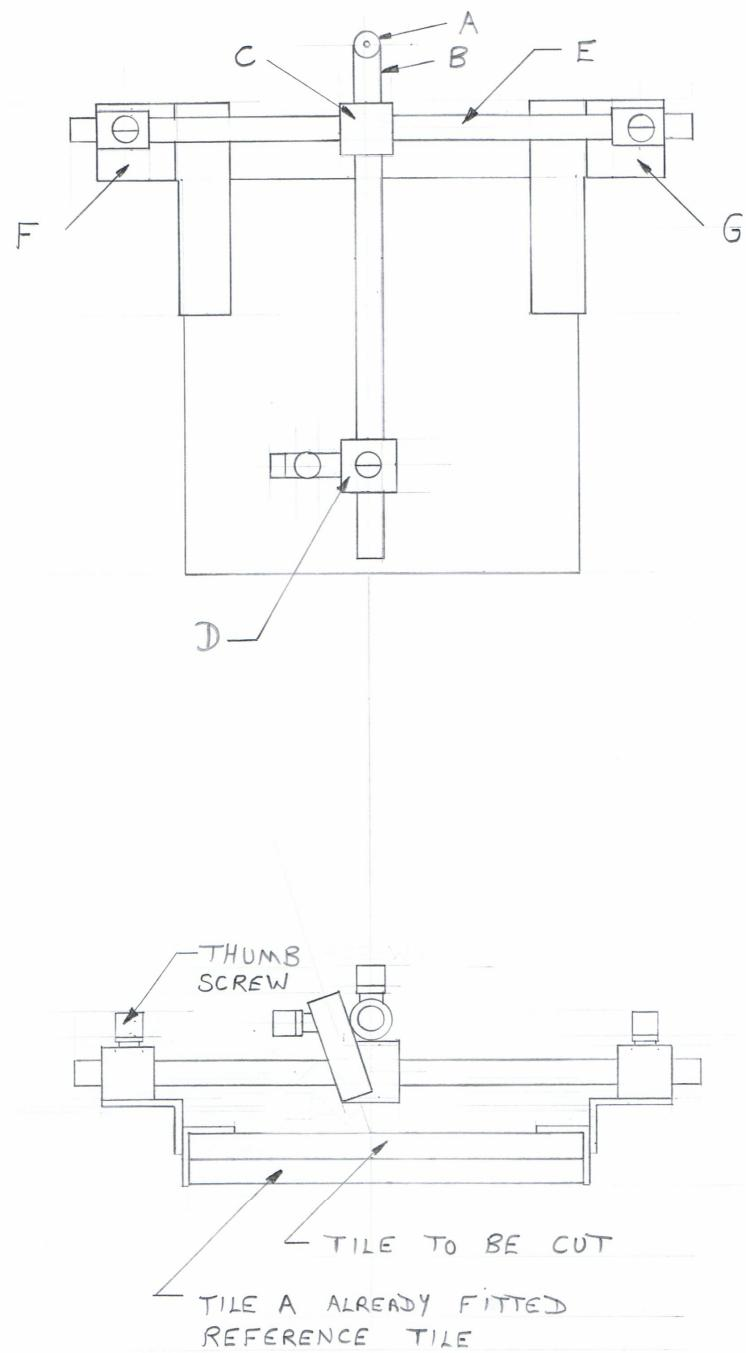
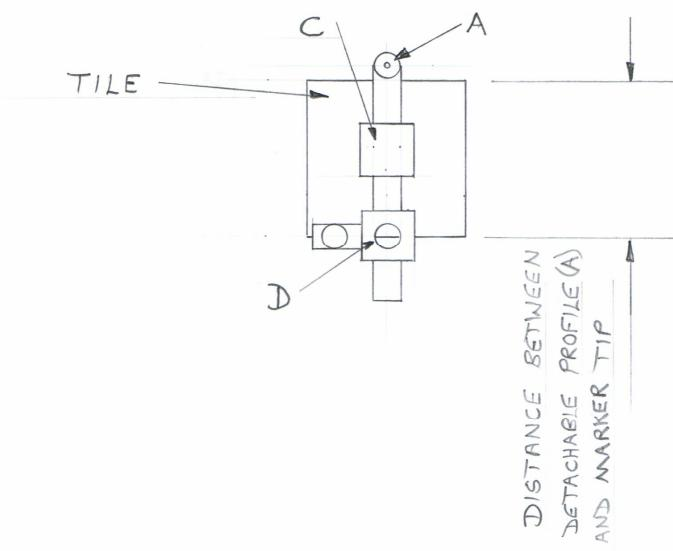
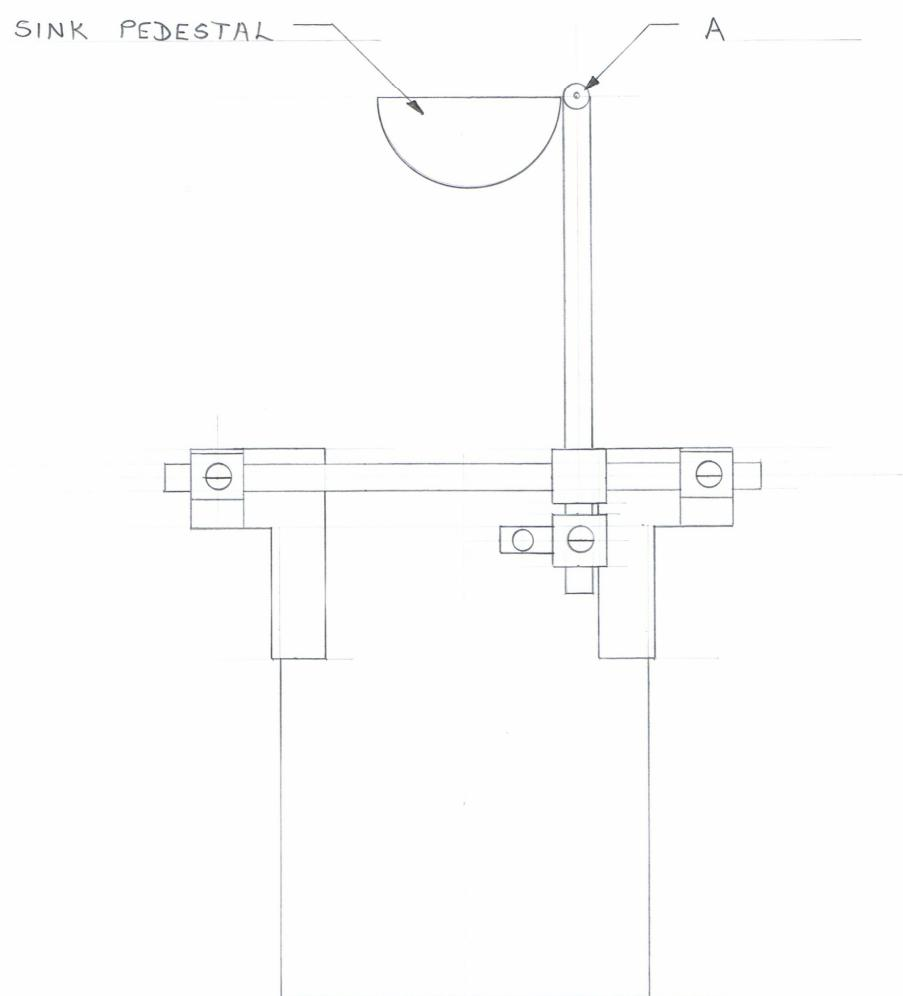

FIGURE 1
FIGURE 3
FIGURE 4
## Contents – Figure 1
1. Figure 1, the tiler chooses the correct detachable profiler (A) for the tile spacing currently being used and screws this on to the vertical profile bar (B).
2. The sliding sleeve (C) is then attached to the vertical profile bar (B).
3. The marker is attached to the marker bracket (D).
4. The marker bracket (D) is then attached to the vertical profile bar (B).
5. The tiler then adjusts the length between the detachable profiler (A) and the marker tip as shown in Figure 3.
7. The horizontal profile bar (E) is then attached to the sliding sleeve (C).
8. The end brackets (F) and (G) are then located on the horizontal profile bar (E) and tightened up against the tile using the thumb screws.
9. The tiler then moves the detachable profiler (A) to the extreme position of the sink pedestal as shown in Figure 4, and follows the contour of the shape ensuring the marker is marking the profile on the tile.